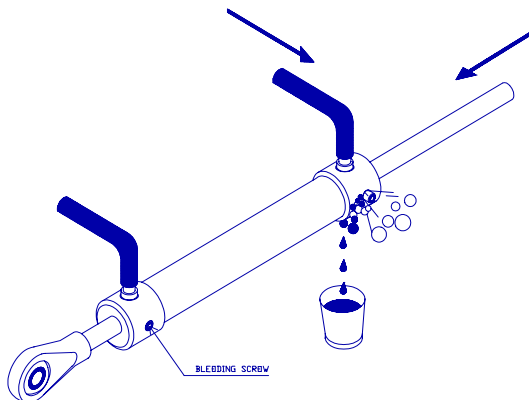

Figure 64 – Bleeding Cylinder, Rod moving left
4. To bleed the Reversing Pump, you will need to extend – using the autopilot – the cylinder rod in the other direction, and back again, repeatedly, until all air is removed. Open one bleed screw (or nipple) on the hydraulic cylinder and close the other. Normally, you close the bleed screw closest to the end of the rod that is now retracted, and open the bleed screw closest to the rod end now extended (see Figure 64). Be sure to position the catch can under the open bleed screw, first.